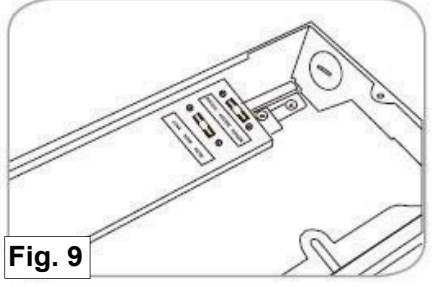

Fig. 9
9. Select power switch setting (Fig. 9).
Select color switch setting (Fig. 9).